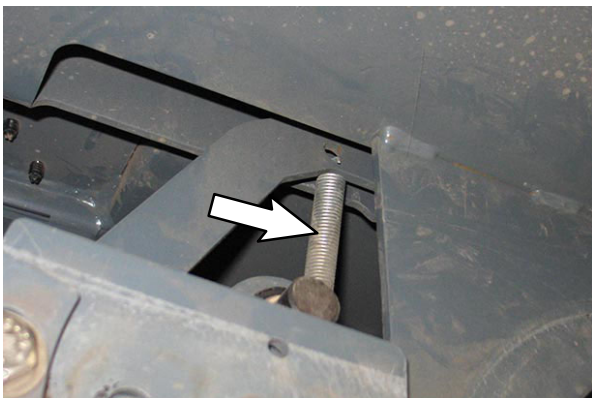

FIG. 4
6. Remove the spring from the link plate and left pivot mounting bracket. Discard the spring. (Fig. 4)